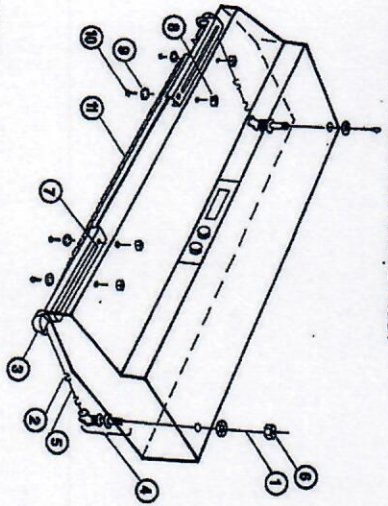

FIGURE 4
The detection kit consists of fire detection links which detect the presence of fire or excessive heat (generated by fire) under the range hood, interconnecting cable and chain, corner pulleys and other components identified with Figure 4. Cable lengths are preassembled to fit the detection kit. Cable should not be lengthened or shortened except as specified for in this manual. Four (4) metal corner pulley assemblies are provided, however, for special installations, two (2) additional corner pulleys may be used.